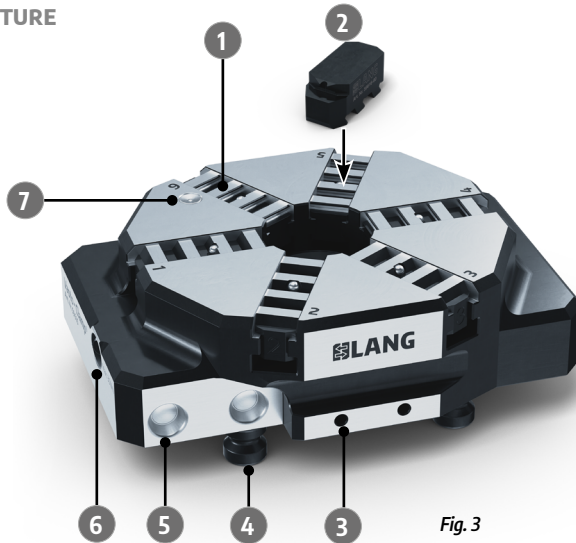

Fig. 3
- 4x screwed-in Quick•Point® 96 clamping studs (Fig. 3, Item 4)
The clamping mechanism for clamping/unclamping the workpieces is achieved by turning the worm shaft (see Fig. 3, Item 6).